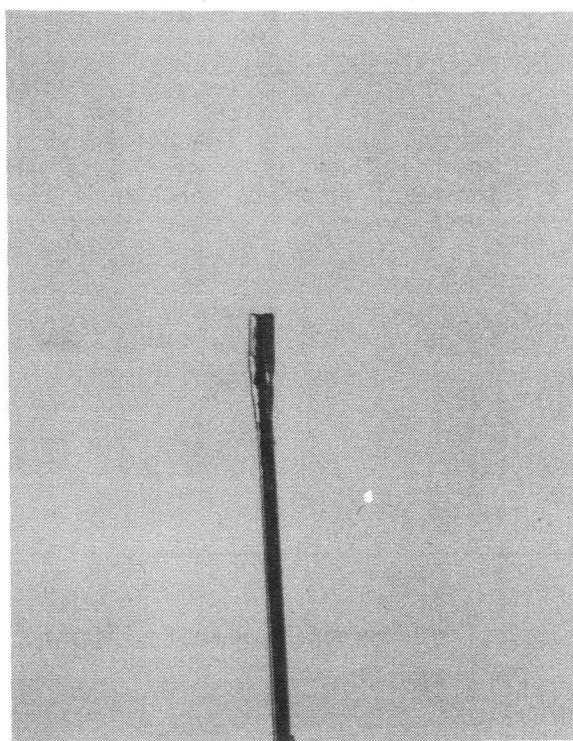
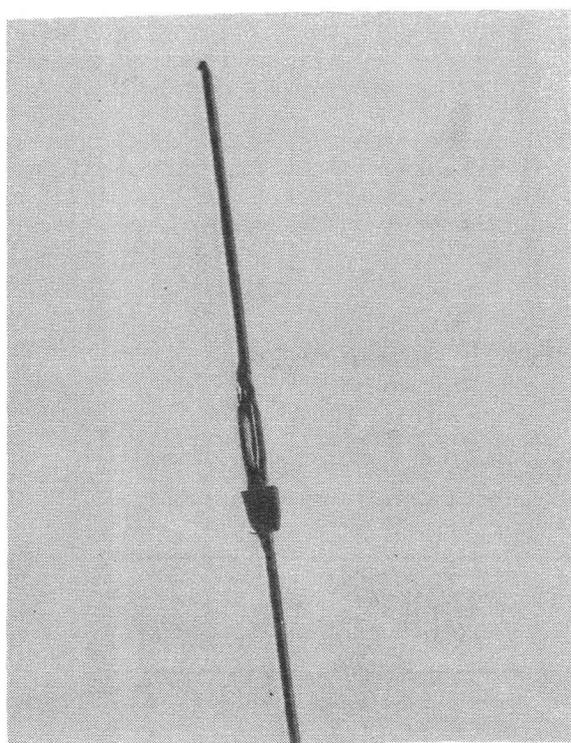

FIGURE 3
FIGURE 4
- 5.15 The two types of pressfit terminals can be identified by the presence or absence of a shoulder. The shoulder consists of a pair of wings on two sides of the pin next to the pin's pressure spring. The 1D1 does not have a shoulder (see Figure 3) and the 1B4 has a shoulder (see Figure 4).